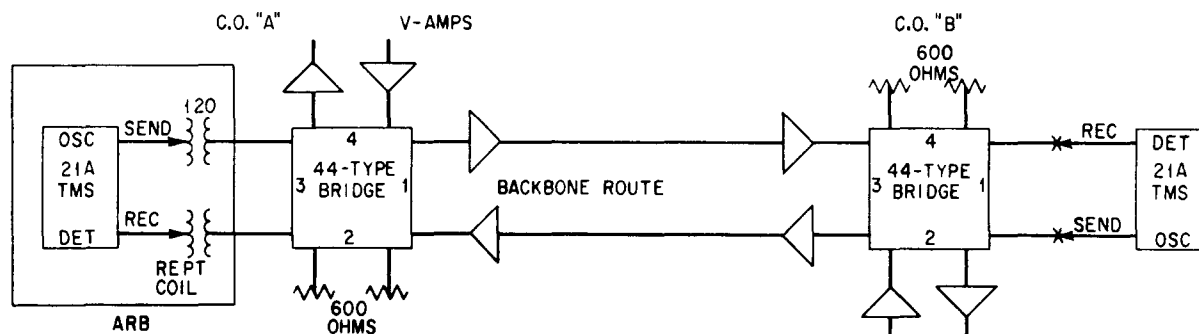

Fig. 2 — Testing Arrangement for Response of Backbone Route
ARB headquarters. If the route is split, measurements should also be made from the most remote central office on the branch. Measurements should be made in accordance with Fig. 2 which is a typical testing arrangement. ***ALL BRIDGING CIRCUITS AND LOOPS SHOULD BE CONNECTED NORMAL BEFORE MAKING THE TEST.***
5.02 Chart I outlines the procedure for making frequency response measurements on the backbone route. While Fig. 2 shows a 21A TMS, other sets recommended in Part 2 may also be used. This means that the procedure set forth in Chart I may have to be revised slightly depending on the test sets used.